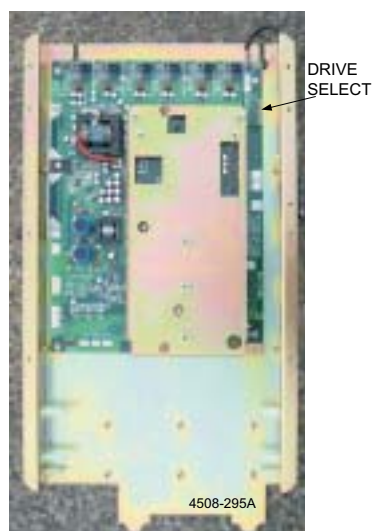
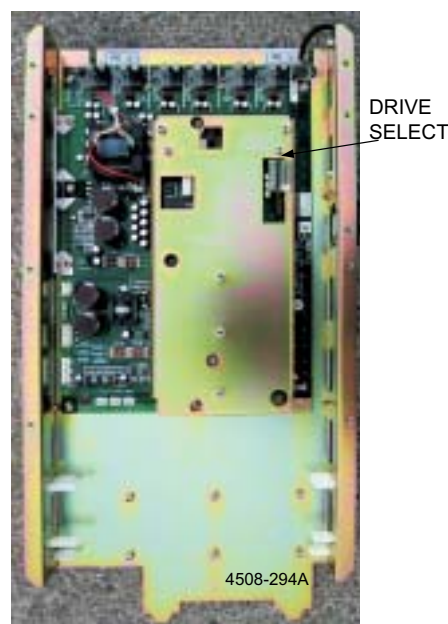

Figure 5.9: 400V Power tray
Figure 5.10: 500V Power tray
- 2) When the Control board has been removed, put it onto the new Power tray. For 500V models, move the Drive Select board to the new Power tray, see figure 5.10. For 400V models, this can be done after the Control Board is in place see figure 5.9.